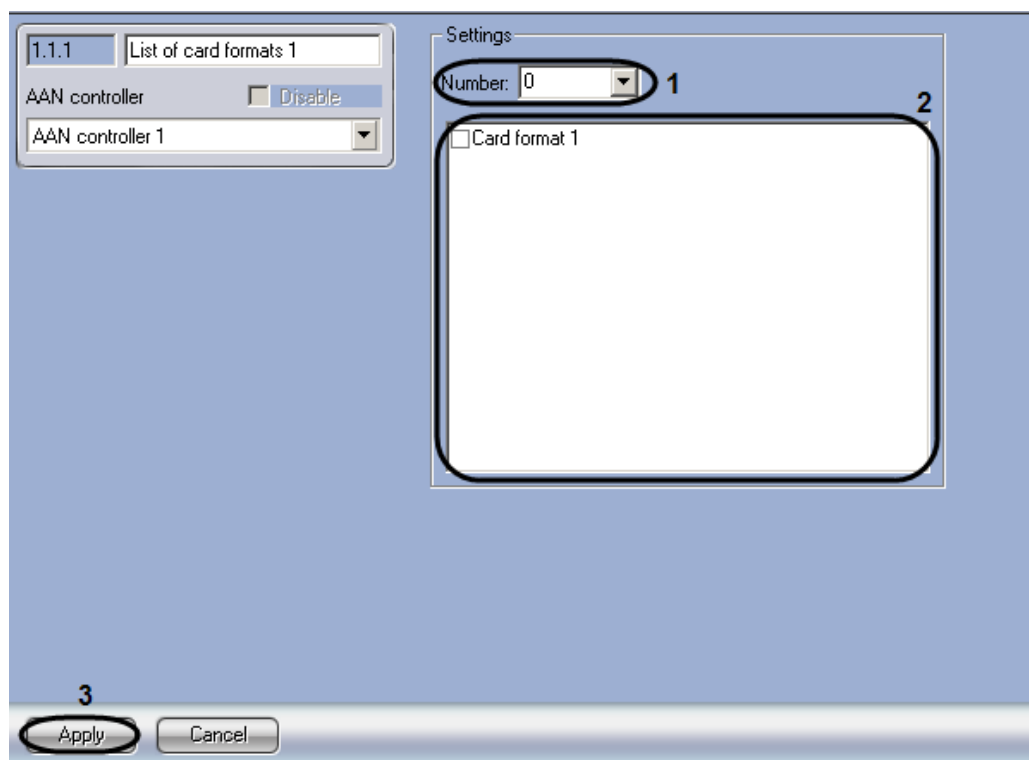

Fig.3.4-4 Setting pane of a List of Card Formats object
2. Go to the **List of Card Formats** object's settings panel (Fig.3.4-4).
3. From the **Number** dropdown list select a unique number to assign to this list of access card formats (see Fig.3.4-4, 1).
4. Place a checkmark next to the access card formats that should be included in this list (see Fig.3.4-4, 2).
- To save changes, click the **Apply** button (see Fig.3.4-4, 2).